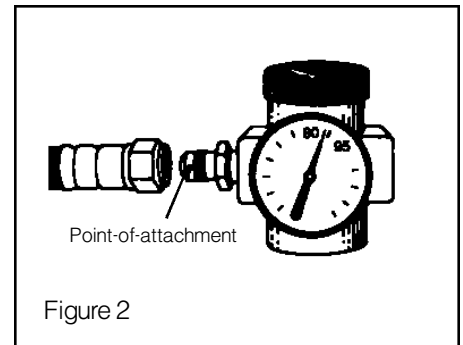

Figure 2
- Adjust the air pressure at the point-of-attachment to within the approved pressure range (Figure 2). See the Air Pressure section at the top of page.